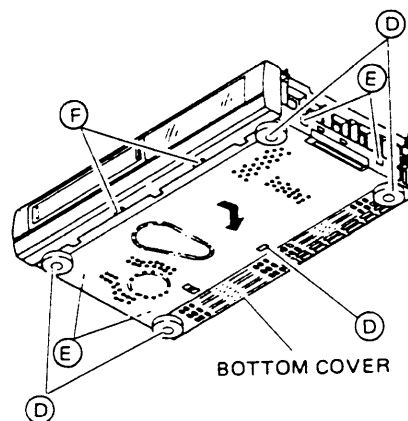

Fig. 1-1-3
2. Refer to Fig. 1-1-3 and take out 5 screws (D) and disengage 4 claws (E) from the bottom of the chassis.
3. Disengage the bottom cover from the bottom of the chassis slide in direction of arrow and disengage 2 tabs (F).